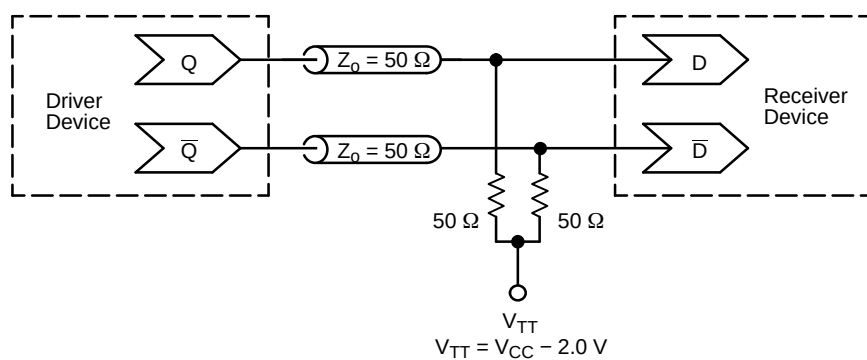
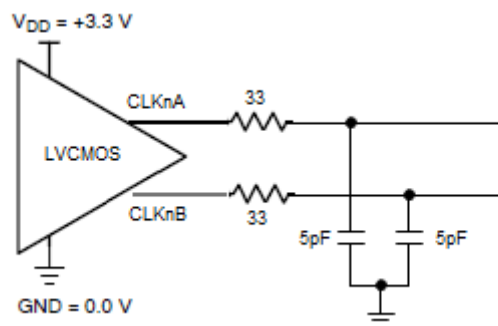

Figure 9. Typical Termination for LVPECL Output Driver and Device Evaluation
Figure 11. Typical LVCMOS Output Test Setup for Evaluation
13. Measured by using a 25 MHz crystal as clock source. All LVPECL outputs are loaded with an external $R_L = 50 \Omega$ to $V_{DDO} - 2 \text{ V}$ (Figure 9); LVCMOS outputs loaded with $R_S = 33 \Omega$, $C_L = 5 \text{ pF}$, 5" 50 Ω trace, (Figure 11).